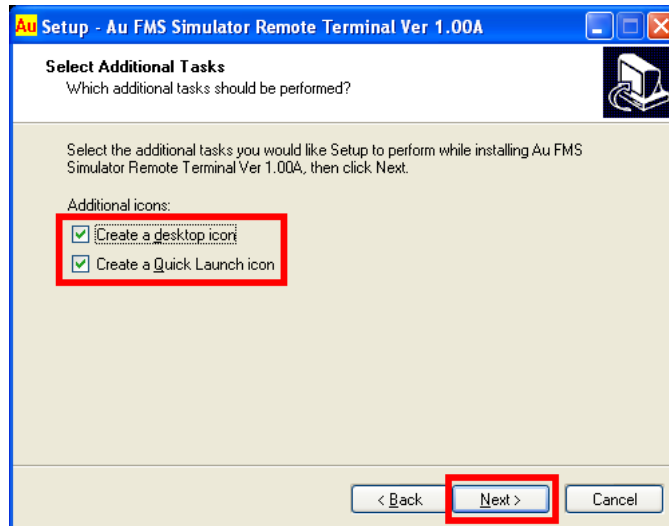

Figure A-6
6. “Select Additional Tasks” window pop up, check both “Create a desktop icon, and create a Quick Launch icon”, click “Next” to continue (Figure A-6).